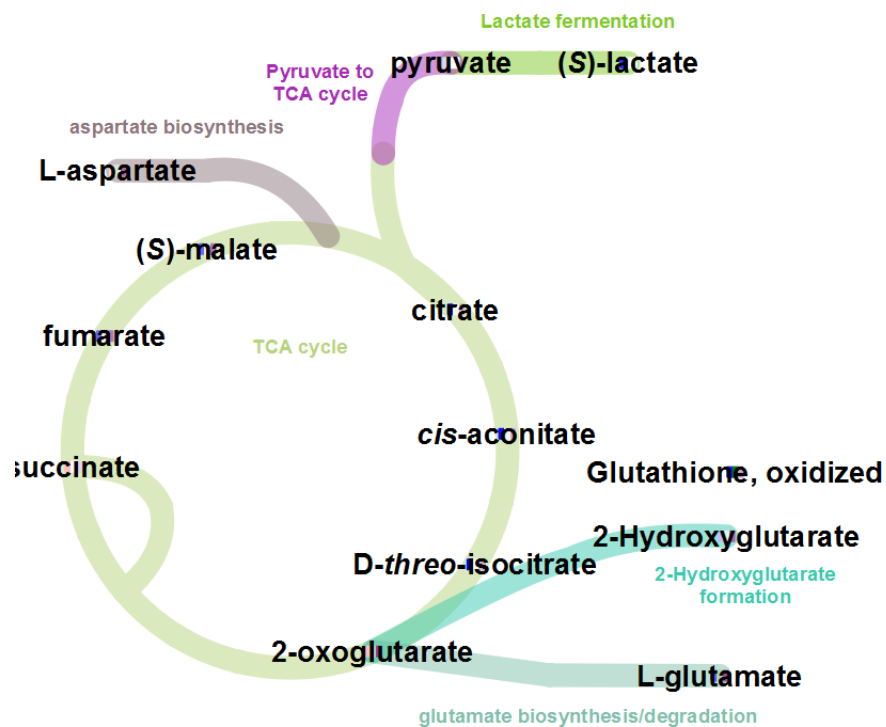

Figure 138 Network diagram after adjusting the metabolite labels
- q Click the **Network View Mode**  button from the toolbar to disable editing mode and view your network (Figure 138 on page 123).